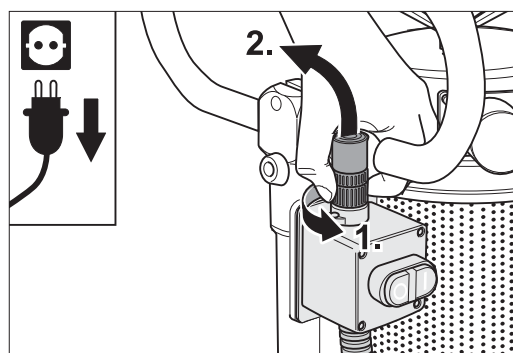

Fig. 24 Loosen the ring nut and remove the cable plug.
- 2 Loosen the cable plug of the sensor on the on/off switch by turning the ring nut and pull the cable plug off (Fig. 24).